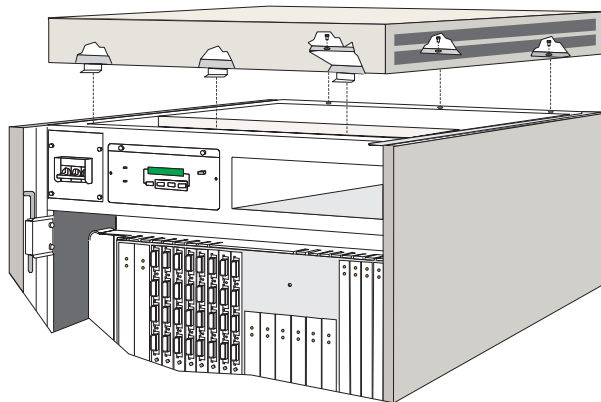

Figure 3-48. Top Cover
For orientation and FRU location, refer to Figure 3-48. During this procedure, observe the practices described in "Procedural Notes" on page 3-4.
Use the following procedure to remove a top cover. Refer to Figure 3-48.
Use the following procedure to replace a top cover. Refer to Figure 3-48 on page 3-98.
3. Insert and tighten three screws which secure the top cover to the back of the Director chassis. Refer to Figure 3-48.